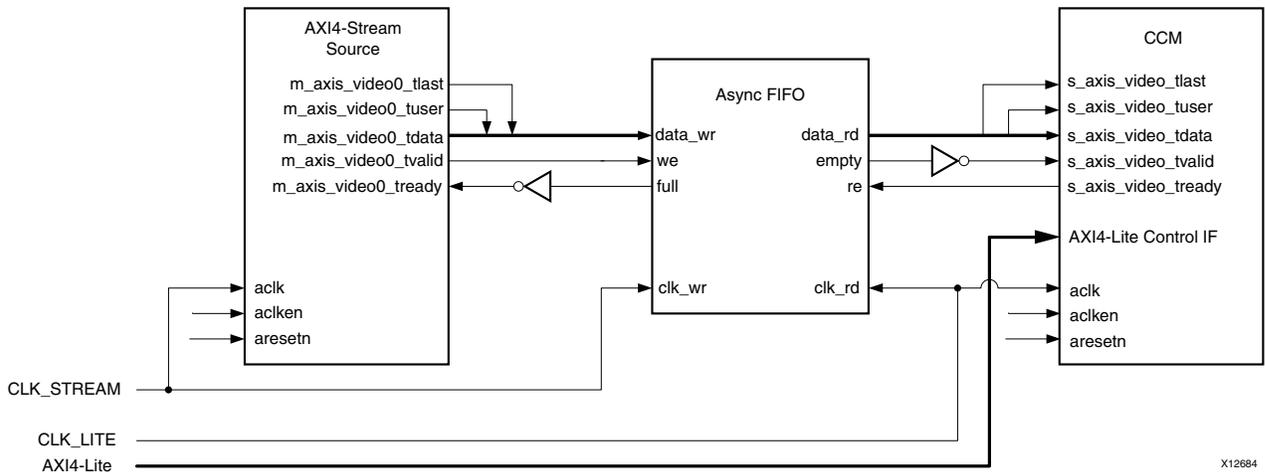

Figure 4-3: CCM CORE Top-Level Signaling Interface
- ($F_{CLK_STREAM} < F_{CLK_LITE}$) then clock-domain crossing logic needs to be inserted before the AXI4-Stream interface, and the CCM core needs to be clocked at the AXI4-Lite clock via the `ACLK` pin, as shown in Figure 4-3. Alternatively, if F_{CLK_LITE} greater than of the F_{MAX} of the CCM core, clock domain crossing logic can be inserted in front of the AXI4-Lite Control interface.
In either case, Xilinx System Integrator tools, such as EDK, can automatically infer clock-domain crossing logic using the AXI interconnect core, when the tool detects that the master / slave side of AXI4 interfaces operate on different CLK rates. For manual instantiation of clock-domain crossing logic, HDL users can take advantage of the FIFO Generator IP core, as shown in Figure 4-3.